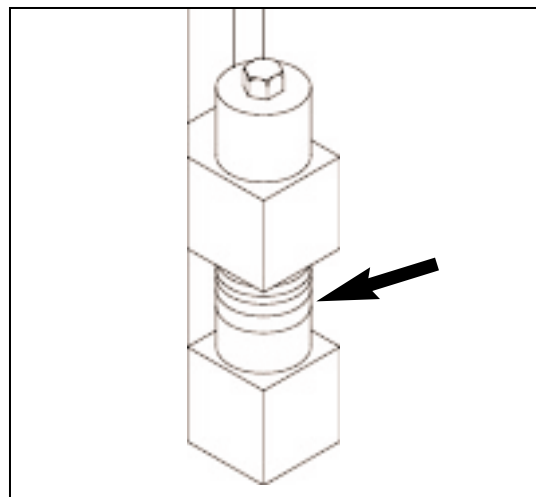

Figure 4.57 63mm (2 1/2") OF SPACERS.
- e. Store spacers on bottom side of bolt for front bolts and left hand rear bolt. For right hand rear bolt store spacers on top. Tighten bolts at all 4 corners that secure mold throat plate spacers (see figure 4.57).